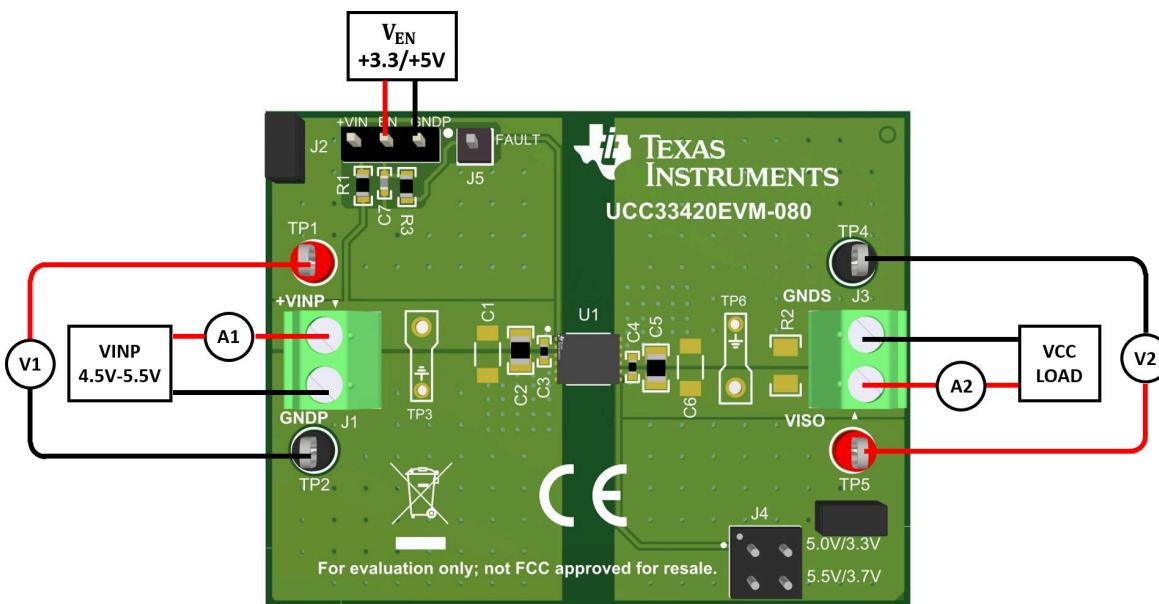

Figure 2-1. Typical Efficiency Measurement Setup
3. Connect a variable load between J3:1 (VCC) and J3:2 (GND). If using an electronic load, then set to constant current (CC), 300mA. Leave the load disabled until the EVM is powered.
4. Some electronic loads are not able to regulate or stabilize CC when setting in the low mA range. Monitor the input current and load currents by inserting ammeters as shown in Figure 2-1. A current probe can be used with the oscilloscope to verify the stability of the DC current being regulated by an electronic load.